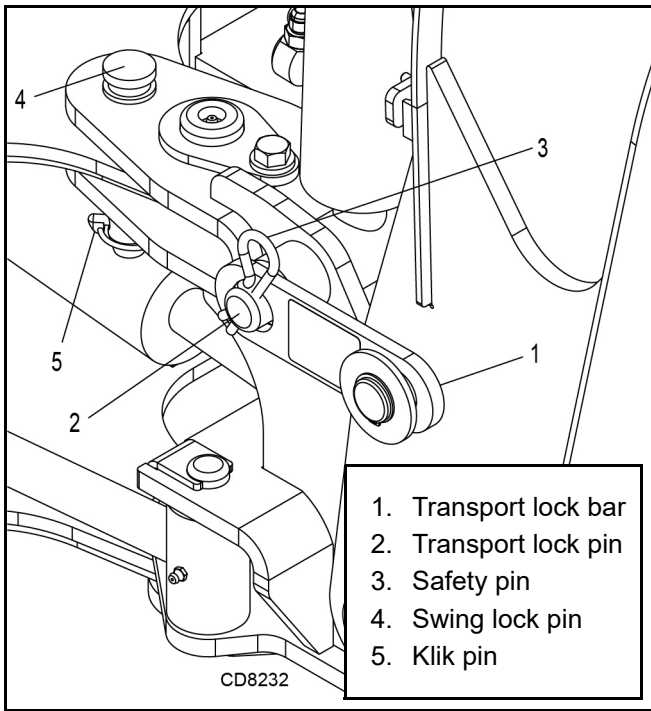

Figure 8. Transport and Swing Lock Installed
Engage transport lock by fully retracting boom and dipper. Position transport lock bar (1), located on right side of swing frame, over transport lock pin (2). Secure with safety pin (4). See Figure 8.